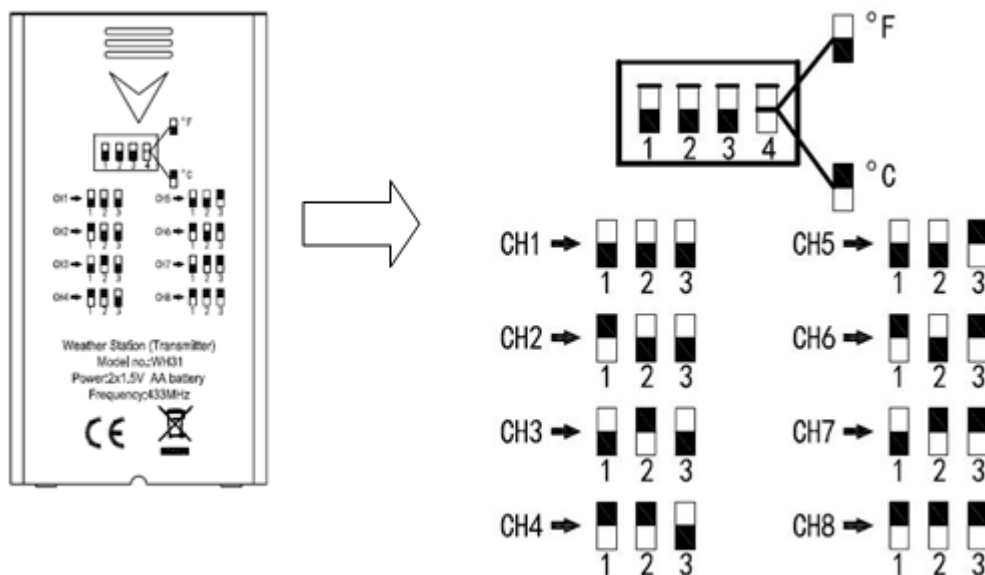

Figure 2
3. **Channel Number:** The WS-3000 supports up to eight transmitters, and includes three transmitters. To set each channel number (the default is Channel 1), change Dip Switches 1, 2 and 3, as referenced in Figure 2.
4. **Temperature Units of Measure:** To change the transmitter display units of measure (°F vs. °C), change Dip Switch 4, as referenced in Figure 2.